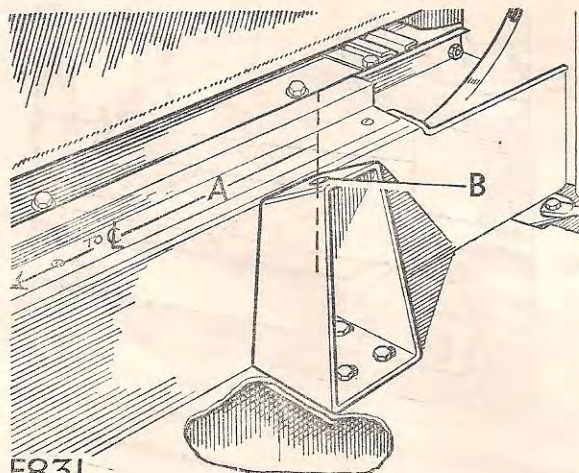

Fig. 14.
5. Mark off a centre line of vehicle on body floor adjacent to seat bulkhead—then mark off a position 8 in. (203 mm) from the centre line toward body side, as shown in Fig. 14.